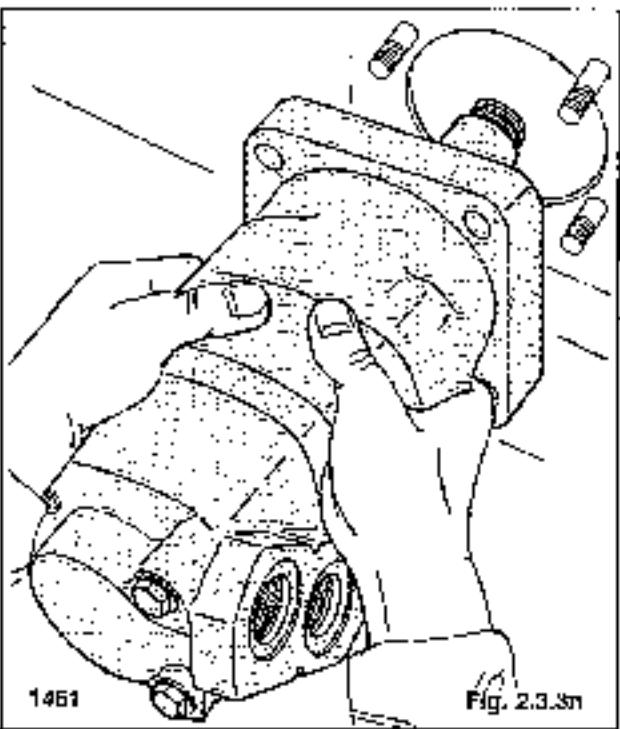

Fig. 2.3.3n
17. Remove the torque motor from the final drive housing (fig. 2.3.3n).